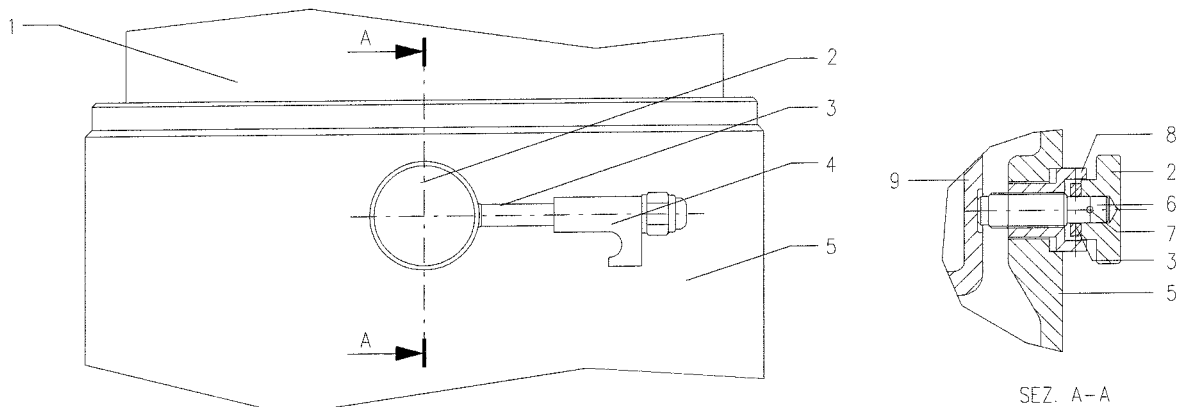

Figure 6.3
- 2) Screw the locking pins to prevent bowl rotation (fig. 6.3).
- Screw the first locking pin (6), by turning clockwise the handwheel (2). It fit the circular groove on the bowl body. Do not force the locking.